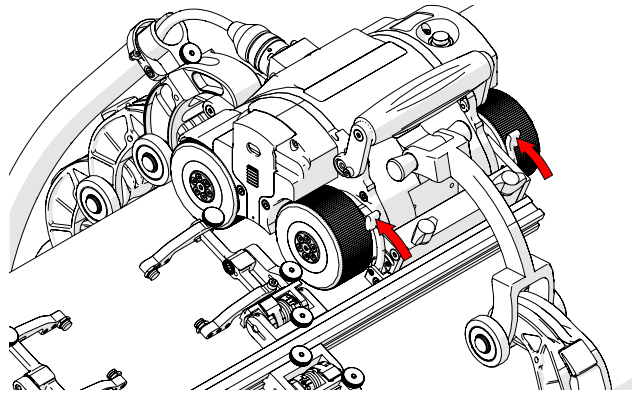

Fig. 173 - Lock swivel mount in place
15. When the swivel mount is positioned appropriately, Lock the swivel mount levers (Fig. 173).